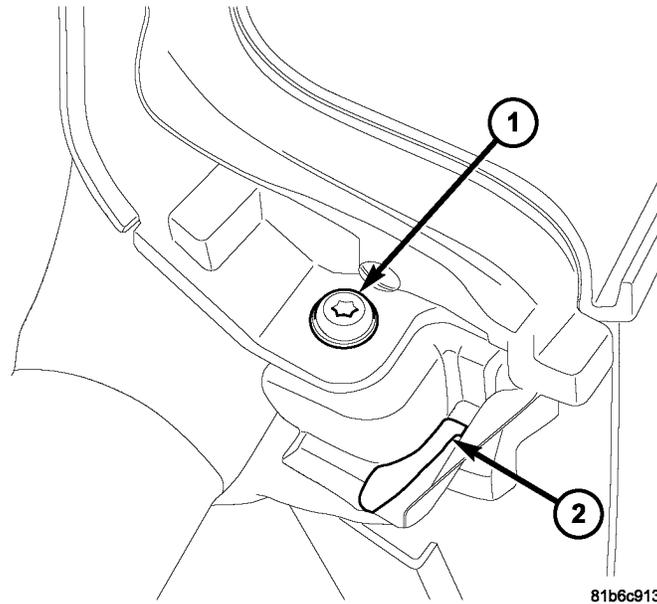

Fig. 4 B-PILLAR CUP (4 DOOR SHOWN)
- 3. Water traces on the hard top corner and leading into the "cup" of the upper B-pillar molded detail (4 DR), (Fig. 4), near the fastener indicate a leak either under the hard top seal or between the hard top seal and the Freedom Panel.